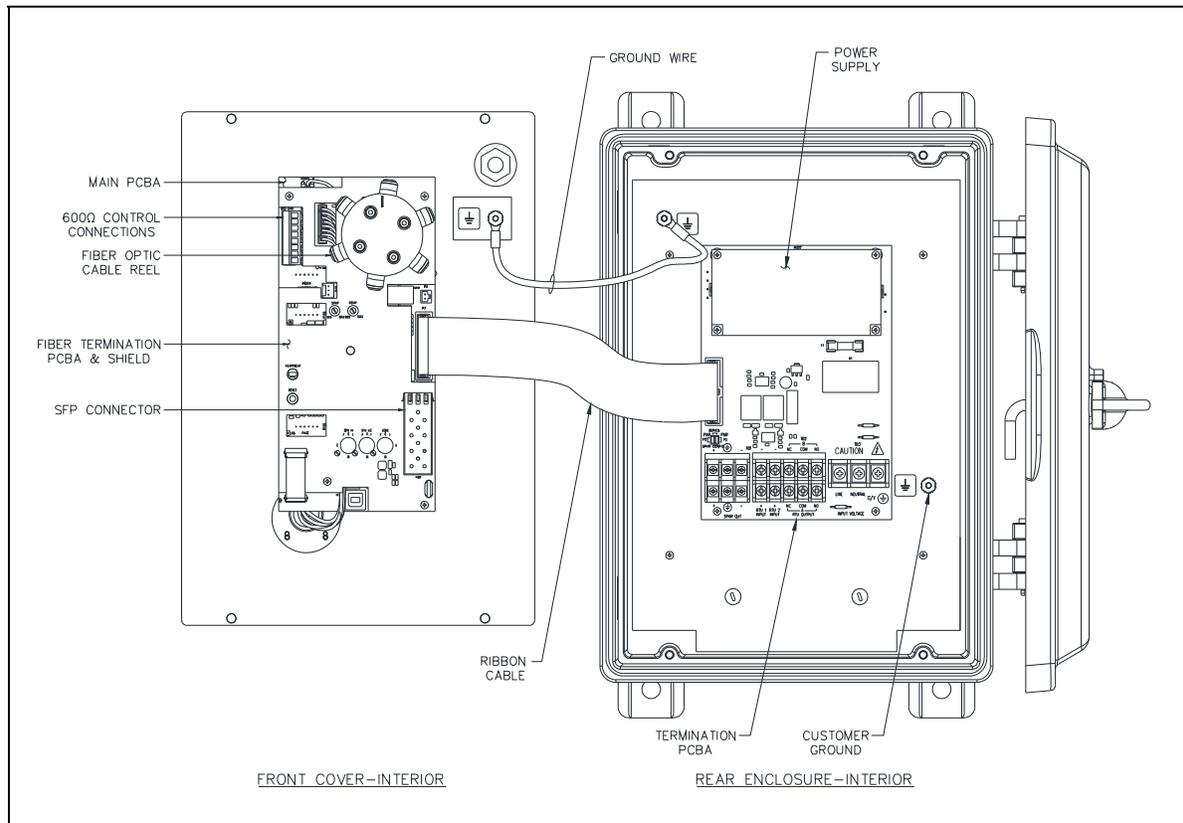

Figure 3. SP2 Fiber Weatherproof Station—Interior View
2. Secure it to the ground terminal, located in the lower right corner, at the back of the rear enclosure (see Figure 3).